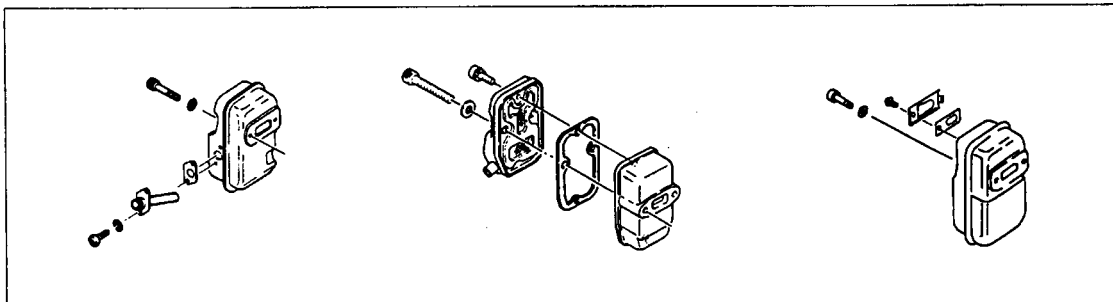

Fig. 3-7
**Cleaning the muffler (Fig. 3-7)**